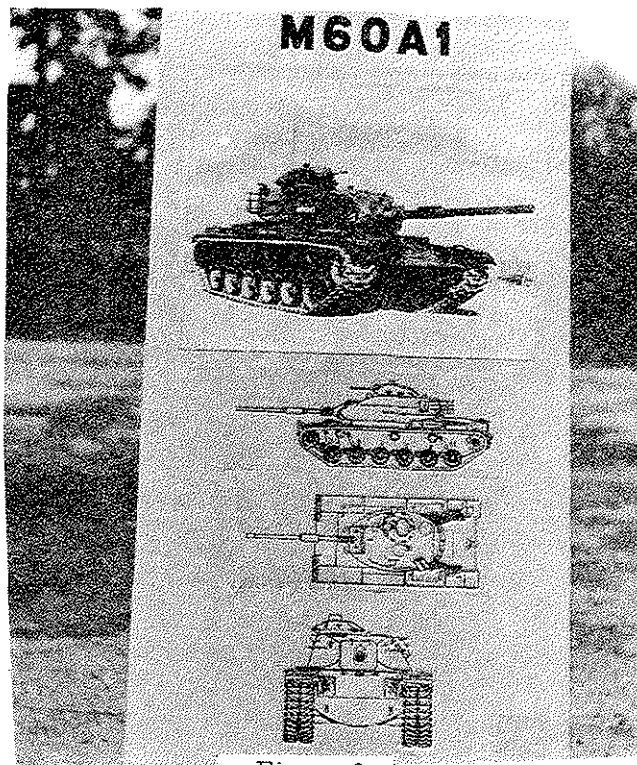

Figure 3
2. A 2' x 4' chart of each tank you intend to teach can be made by your local Training Aids Service Office (TASO), Fig 3 (page 91) and Fig 4 (page 92). The 3-view line drawings are simply enlarged photos of the 3 views found in the Tank Identification Handbook. The black and white